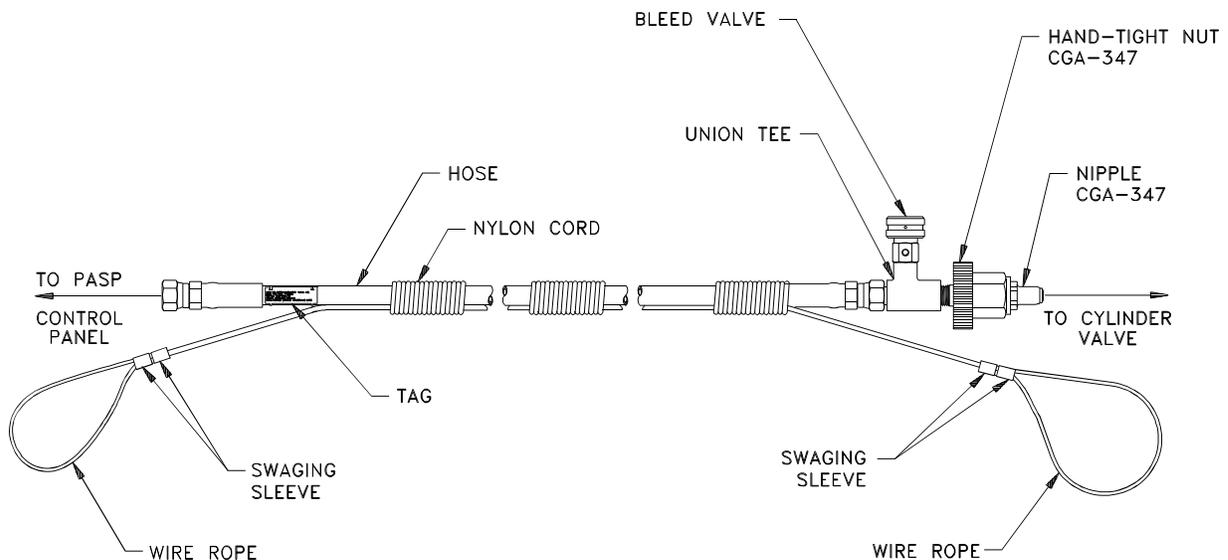

Figure 3-4. High-Pressure Hose Assembly
3.3.1.3 HP Hose Assemblies. Each PASP is equipped with two HP hose assemblies. The HP hose assembly is displayed in Figure 3-4. The hoses are made of thermoplastic and connect the PASP and RASP cylinders to the three-way ball valve on top of the PASP control panel. The